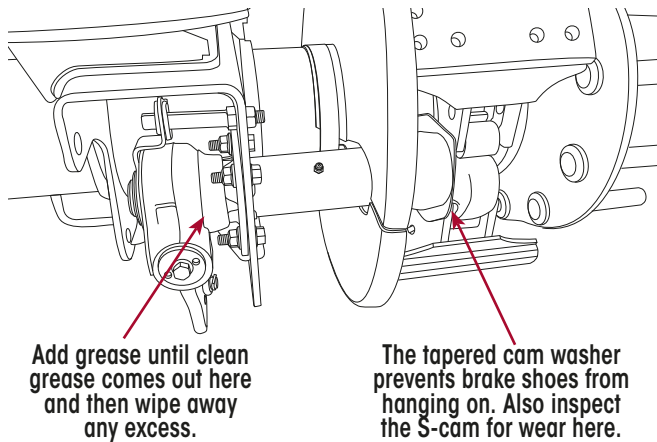

Figure 77: INTRAAX S-Cam Lubrication & Inspection
13. Lubricate the single, centrally located grease fitting (refer Figure 77) with EP NLGI #2 grease as follows: